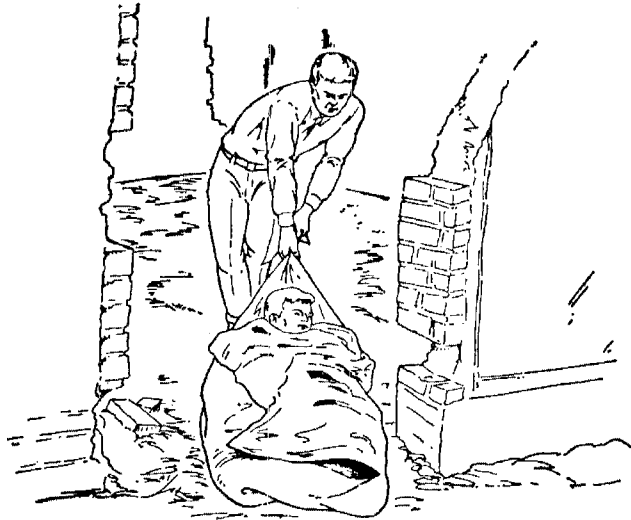

Fig. 29—The Blanket Drag
- (1) Place the blanket diagonally beneath the victim.
- (2) Cross the arms of the victim over his chest, then fold the lower end and sides of the blanket over the victim.
- (3) Drag the victim by grasping the end of the blanket near the victim's head. (See Fig. 29.)